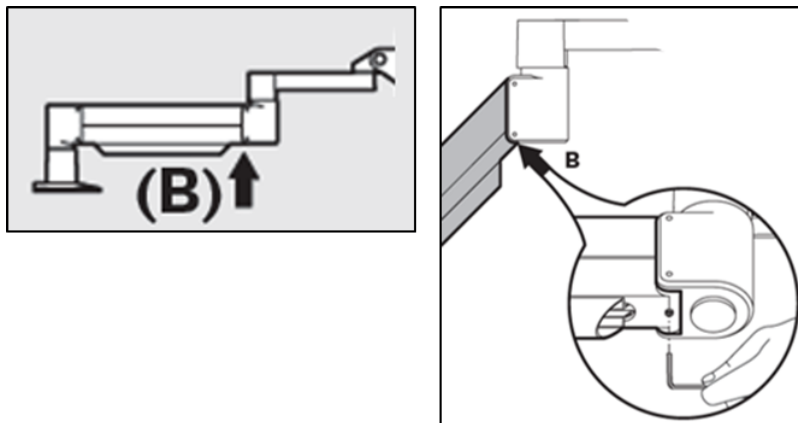

Figure 4-6. Loosen Counterbalance Set Screw B
- Reposition the arm horizontally. Loosen the upper Counterbalance Set Screw B by turning the screw at least a ½ turn. Use a 3/32 Allen Wrench. See Figure 4-6.
- Position the arm horizontally and tighten Counterbalance Set Screw B until contact is made, then tighten  $\frac{1}{2}$  to  $\frac{3}{4}$  revolutions. See Figure 4-6.